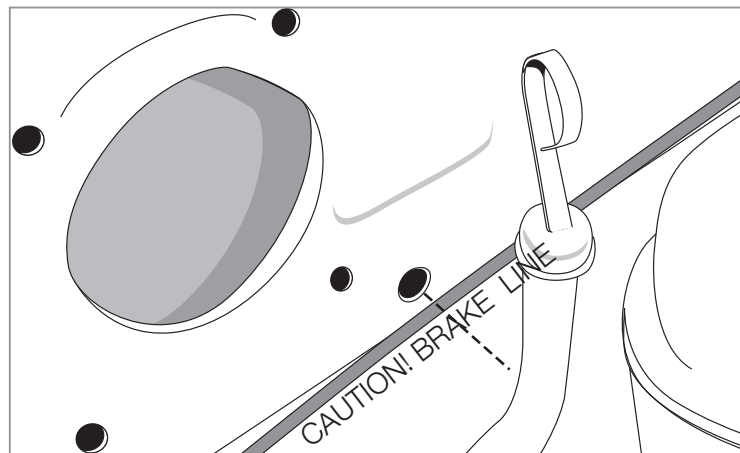

FIGURE 18
**CAUTION:** On the engine side of the firewall there is a brake line. Be careful not to drill through the brake line. It may be necessary to carefully push this line out of the way, securing it a bit lower is usually all that is necessary (see figure 18)